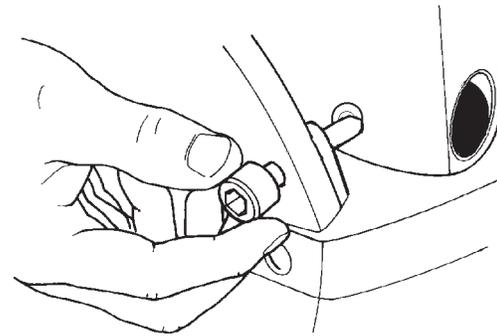

Figure C-88
**The base lock does not fit dead center in the hole, but off to one side, as shown in Figure C-88.**